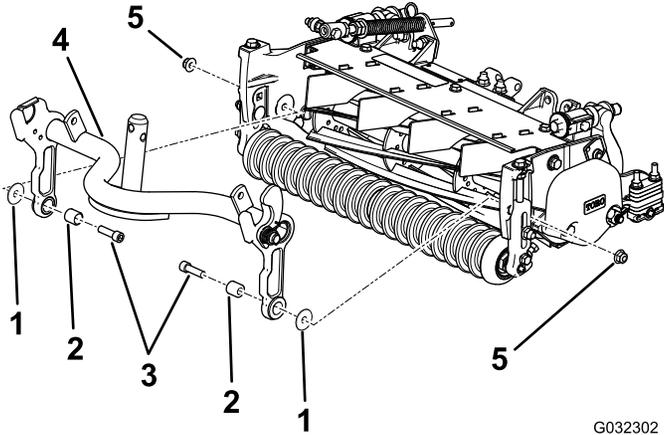

Figure 5
- In those same locations, install a bolt (3/8 x 1-1/4 inches), a new spacer, and the previously removed washer, and secure them using the nut provided in the kit (Figure 5).